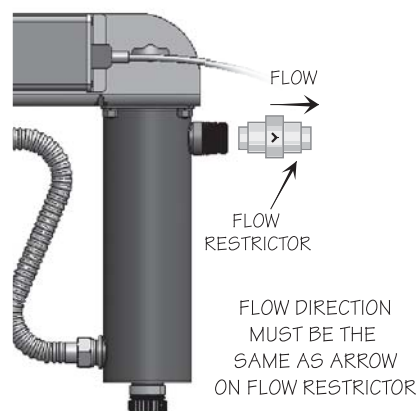

Figure 4 Flow Restrictor
3. Mount the system to the wall with appropriate lag bolts (not supplied) through the two mounting holes located on the metal bracket. The use of a flow restrictor device is recommended when installing your system in order to maintain the manufacturer's maximum rated flow. The flow restrictor should be installed on the outlet port and is designed to be installed in one direction only. Ensure that the flow of the water matches the flow direction as indicated on the flow restrictor. Refer to Figure 4.